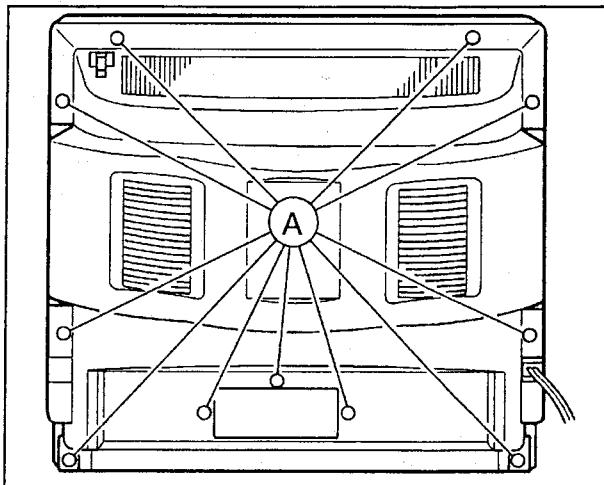

Fig. 1
- Take out 11 screws Ⓐ indicated in Fig. 1.